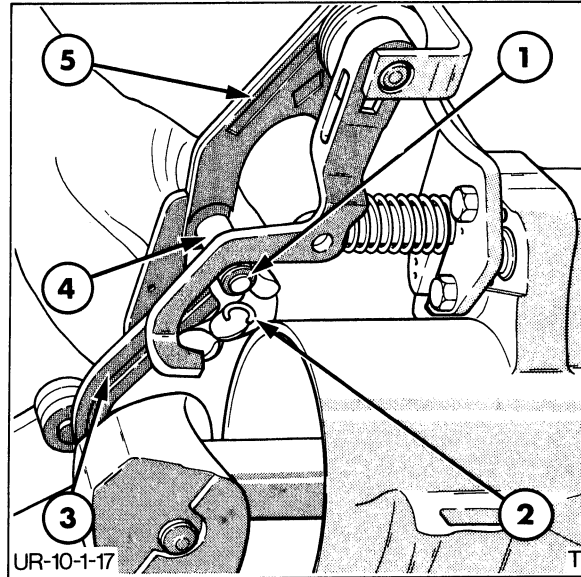

FIGURE 8-17
2. Remove the snap ring from the end of the draft lever to actuating lever pivot pin, Figure 8-17.